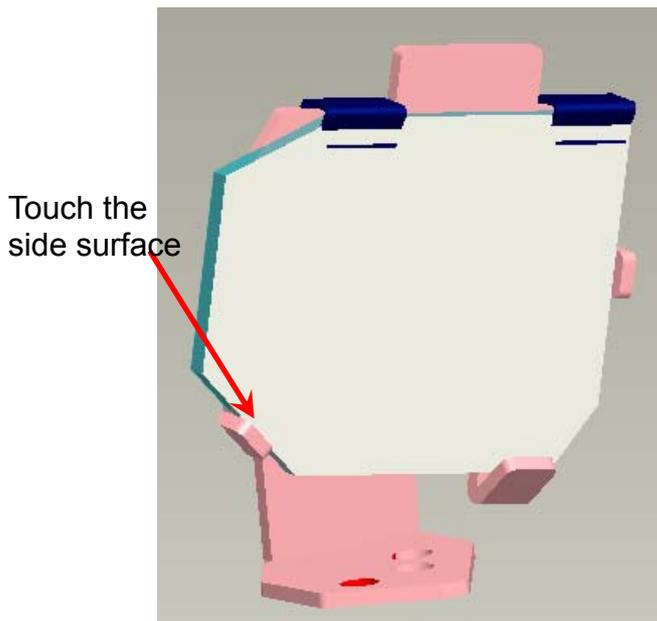
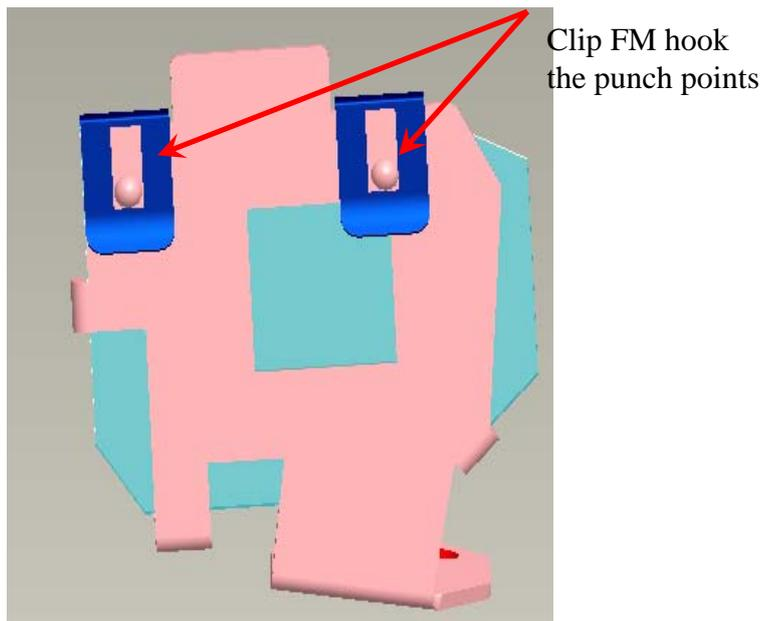

Fig. 5-1
Fig. 5-2
5.1 Place FM on “HLD FM” surface(Fig. 5-1) and use “Clip FM” to fix FM(Fig. 5-2).